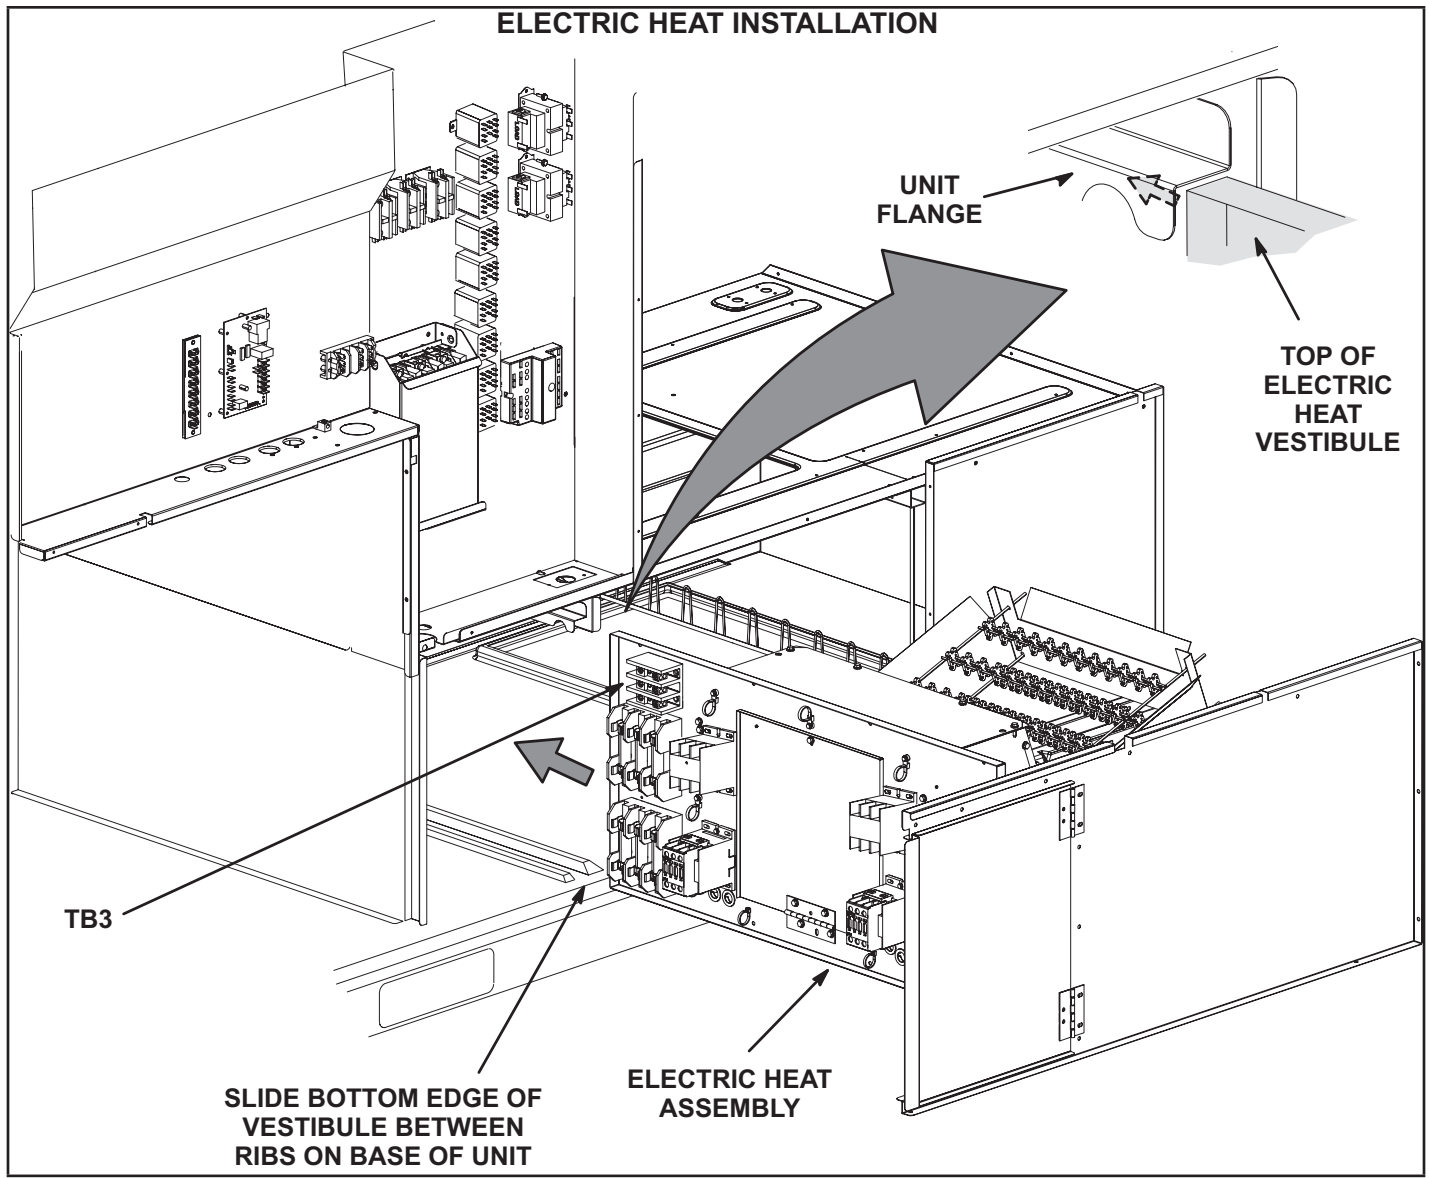

FIGURE 2
- 5 - Insert electric element heat assembly PARTLY into the unit. Make power wiring connections to TB3 on electric heat assembly. See FIGURE 2. Slide assembly the rest of the way into the unit. Secure assembly using screws provided.